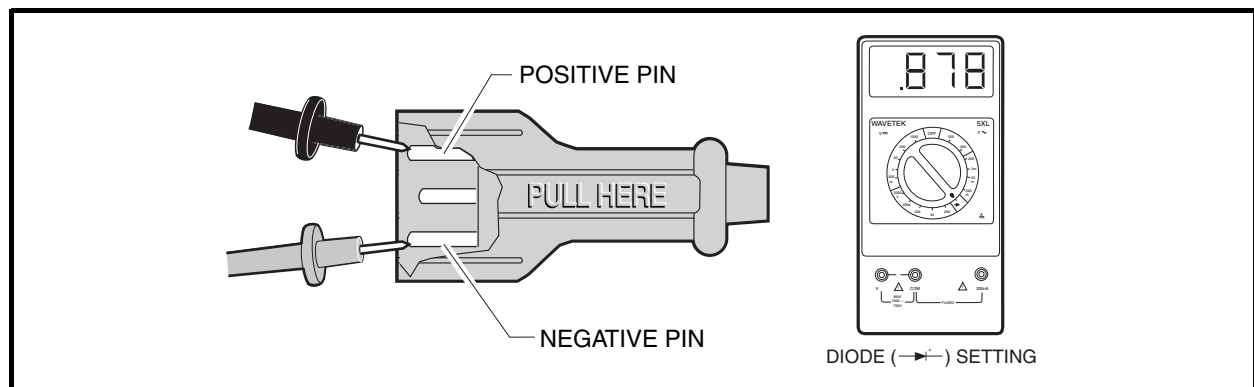

Figure 6-21 DC Plug Test – Probes Reversed
- Reverse the test probes and check the DC plug again (**Figure 6-21, Page 6-22**). The multimeter should indicate approximately 922 mV.